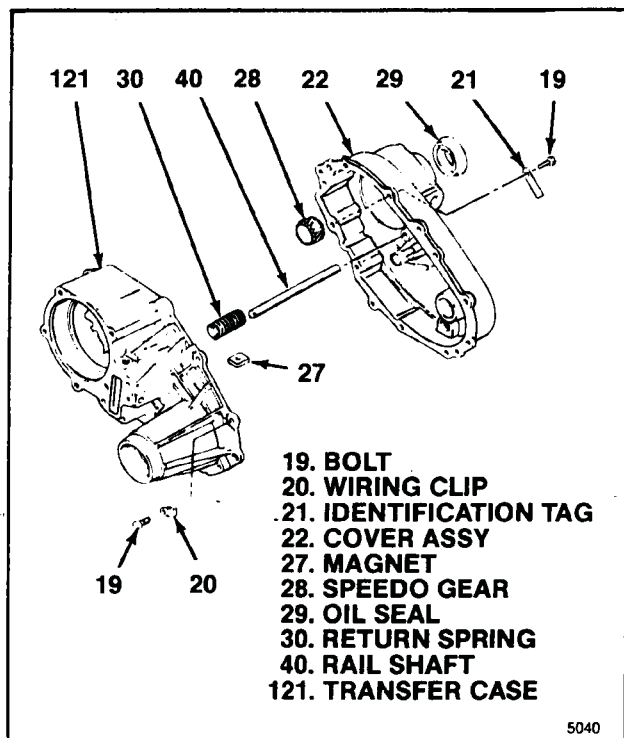

Figure 5-20. Cover Installation
**5-16. INSTALLING COVER ASSEMBLY.** Install cover assembly as completed in paragraph 5-15 on transfer case as follows (see figure 5-20):